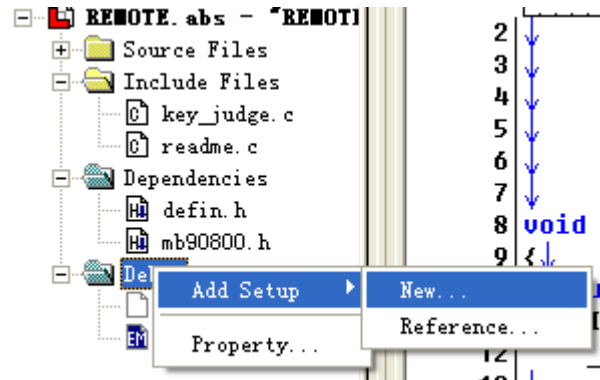

Figure 7-7: Library Use Sixth Step
- Fifth step is to add remote_detect function to main.c, Figure 7-7 describes this step.